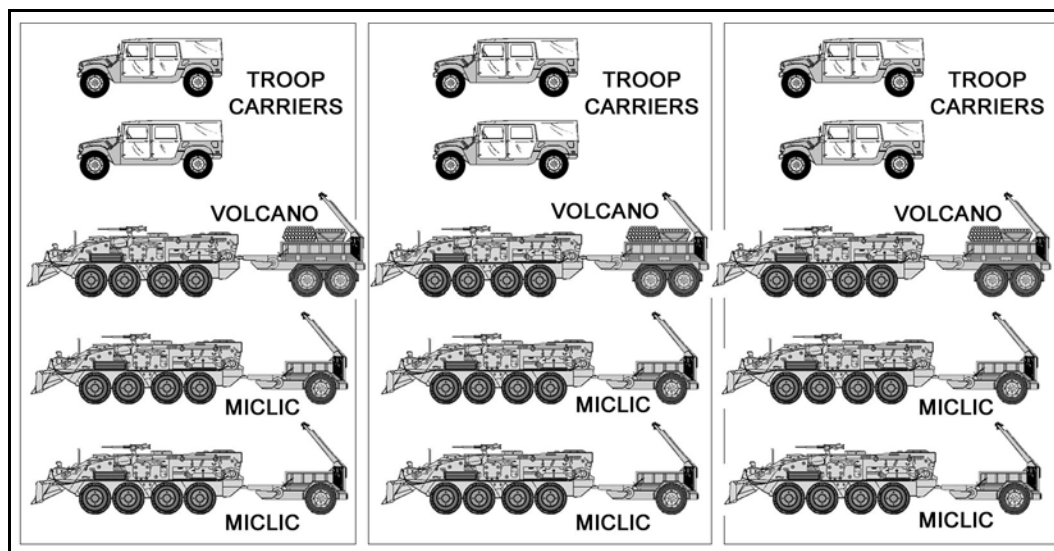

Figure 8-18. Combat mobility platoon.
a. **Combat Mobility Platoon.** The combat mobility platoon is normally the lowest-level engineer unit that can effectively accomplish independent mounted engineer missions and tasks. It is the basic building block of engineer force allocation and task organization. A combat mobility platoon is normally task-organized to support an infantry battalion, but it may support an infantry company based on METT-TC analysis. The combat mobility platoon may receive augmentation in the form of special equipment from the mobility support platoon. Engineer platoon-specific common-platform equipment includes engineer squad vehicles (ESVs) with mountable rollers or blades, MICLICs, and multiple-delivery mine systems (Volcanoes) (Figure 8-18). The combat mobility platoon's engineer squads carry a variety of explosives and demolitions. The squad is normally the minimum force